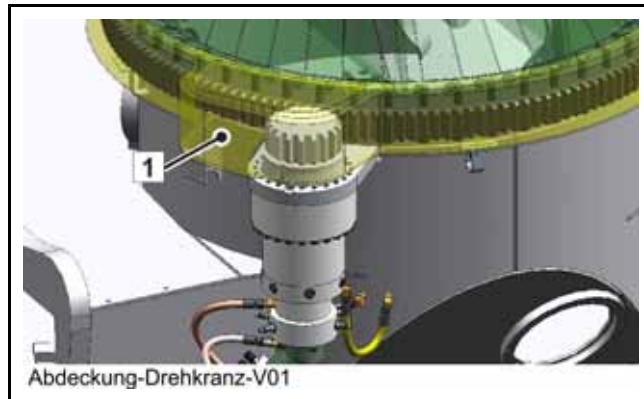

Fig. 346 Slewing ring support cover
The tothing of the rotary drive can be accessed after removing the covering cap (1) via the toothed wheel of the slewing gear (**Fig. 346**).